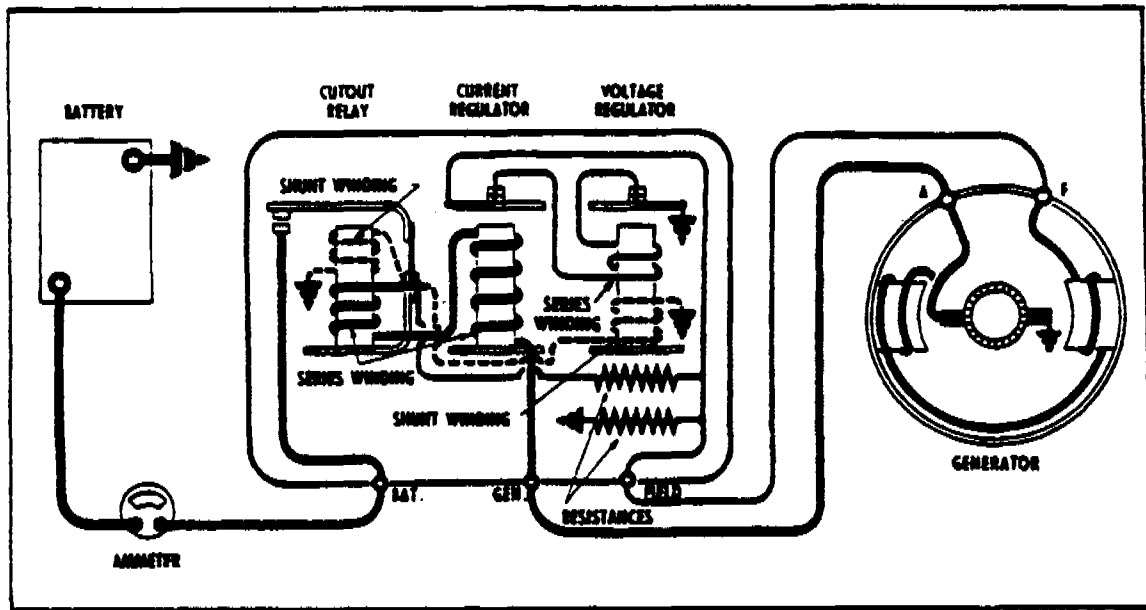
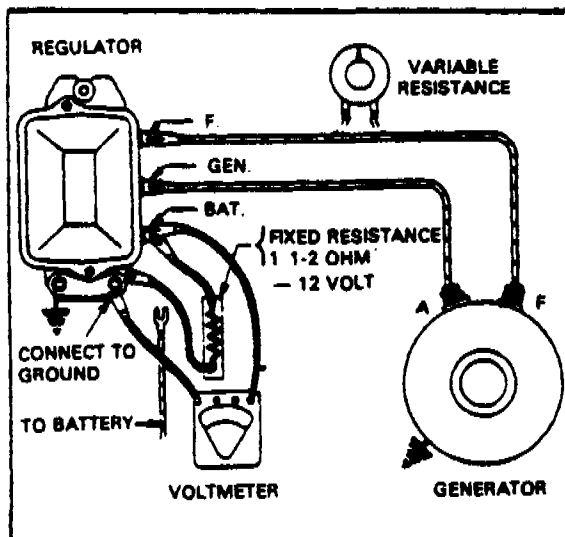

FIGURE 9-3. WIRING CIRCUIT OF THREE UNIT REGULATOR
FIGURE 9-7. CHECKING VOLTAGE SETTING, FIXED RESISTANCE METHOD
9-21. **Regulators.** The regulator shown in Figure 9-3 consists of a cutout relay, a voltage regulator, and a current regulator unit. The cutout relay closes the generator-to-battery circuit when the generator voltage is sufficient to charge the battery, and it opens the circuit when the generator slows down or stops. The voltage regulator unit is a voltage-limiting device that prevents the system voltage from exceeding a specified maximum and thus protects the battery and other voltage-sensitive equipment. The current regulator unit is a current-limiting device that limits the generator output so as not to exceed its rated maximum.
a. The cutout relay (Figure 9-3) has two windings, a series winding of a few turns of heavy wire and a shunt winding of many turns of fine wire (shown in dashed lines). The shunt winding is connected across the generator so that generator voltage is impressed upon it at all times. The series winding is connected in series with the charging circuit so that all generator output passes through it. The relay core and windings are assembled into a frame. A flat steel armature is attached to the frame by a flexible hinge so that it is centered just above the end of the core. The armature contact points are located just above the stationary contact points. When the generator is not operating, the armature contact points are held away from the stationary points by the tension of a flat spring riveted on the side of the armature.
a. The voltage regulator (Figure 9-3) has two windings assembled on a single core, a shunt winding consisting of many turns of fine wire (shown in dashed lines) which is shunted across the generator, and a series winding of a few turns of relatively heavy wire which is connected in series with the generator field circuit when the regulator contact points are closed.
a. The current regulator (Figure 9-3) has a series winding of a few turns of heavy wire which carries all generator output. The winding core is assembled into a frame. A flat steel armature is attached to the frame by a flexible hinge so that it is just above the core. The armature has a contact point which is just below a stationary contact point. When the current regulator is not operating, the tension of a spiral spring holds the armature away from the core so that the points are in contact. In this position the generator field circuit is completed to ground through the current regulator contact points in series with the voltage regulator contact points.
Figure 9-7 after disconnecting the battery lead from the battery terminal of the regulator. The resistance must be $1\frac{1}{2}$ ohms for 12-volt units. It must be capable of carrying 10 amperes without any change of resistance with temperature changes.
9-33. Voltage Setting. There are two ways to check the voltage setting—the fixed resistance method and the variable resistance method (refer to figures 9-7 and 9-8).
Method 2 - Connect a variable resistance into the field circuit, as in Figure 9-7. Turn out all resistance. Operate generator at specified speed. Slowly increase (turn in) resistance until generator voltage is reduced to 4 volts. Turn out all resistance again, and note voltage setting (with voltmeter connected as in Figure 9-7). Regulator cover must be in place.
It is very important that the variable resistance be connected at the "BAT" terminal as shown in Figure 9-7 rather than at the "GEN" terminal, even though these terminals are in the same circuit. An examination of the wiring diagram, Figure 9-3, will show that regulation begins at the point where the shunt windings are connected to the series circuit. Any small resistance added to the circuit between the generator and this point will simply be offset by a rise in generator voltage without affecting the output shown at the ammeter.